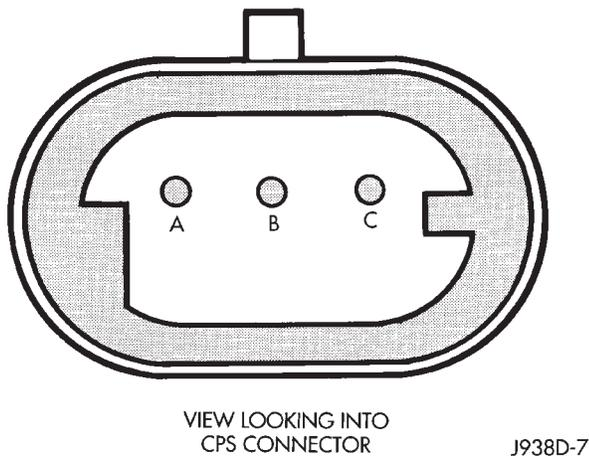

Fig. 5 Crankshaft Position Sensor Connector
(1) Near the rear of intake manifold, disconnect sensor pigtail harness connector from main wiring harness.
(2) Place an ohmmeter across terminals B and C (Fig. 5). Ohmmeter should be set to 1K-to-10K scale for this test. The meter reading should be open (no resistance). Replace sensor if a low resistance is indicated.